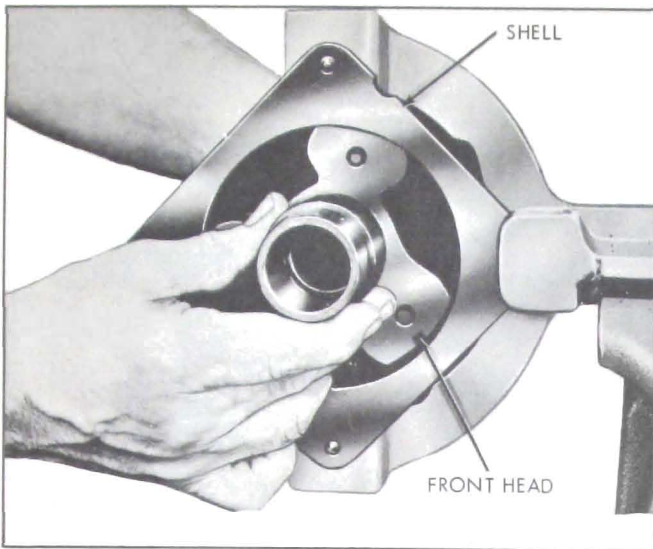

Figure 11-98—Removing Front Head
5. Remove compressor front head, using rubber mallet or wood block to unseat head from shell. See Figure 11-98. Care must be used to protect teflon surface on head from being damaged.